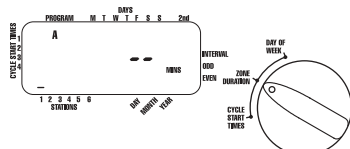

FIGURE 5: Station Duration for Program A
- Turn the rotary dial to **ZONE DURATION** position in either the A or B program. The display will show which program you have selected with an "A" or "B" and the -- cursor blinking at station "1" [See Figure 5].